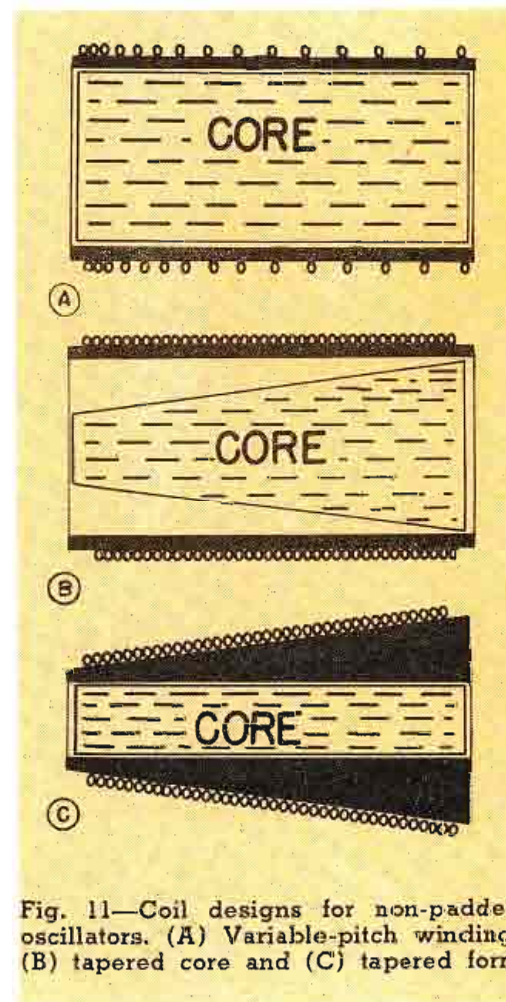

Fig. 11—Coil designs for non-padded oscillators. (A) Variable-pitch winding, (B) tapered core and (C) tapered form
One coil design for a non-padded oscillator is shown in Fig. 11. The coil is wound on a form of constant diameter with a variable pitch, and the tuning core is of constant diameter. This design can use standard cores and the coil form might be grooved or threaded to receive the turns of wire. Alternatively, the coil form could have a smooth outer surface provided the winding
In Fig. 11 (B) the core is tapered and a constant diameter, constant pitch coil is used. In this design the coil could be produced more readily than the one previously described, but the core is special.
A somewhat tentative design, in Fig. 11 (C) has a tapered coil of constant pitch wound on an externally tapered form and a constant diameter coil is used. This type of coil could be produced on the usual winding machines, but in broadcast band the desired inductance range would be difficult to obtain.
Several other interesting coil designs can be obtained by combining portions of the constructions in Fig. 11. For example, assuming the use of a constant diameter core, a coil of variable pitch might be wound on the tapered coil form. Another possibility is the winding of Fig. 11 (A) and the core shape of (B). Further design flexibility would be obtained by using coil forms with non-linear rates of taper or stepped forms.